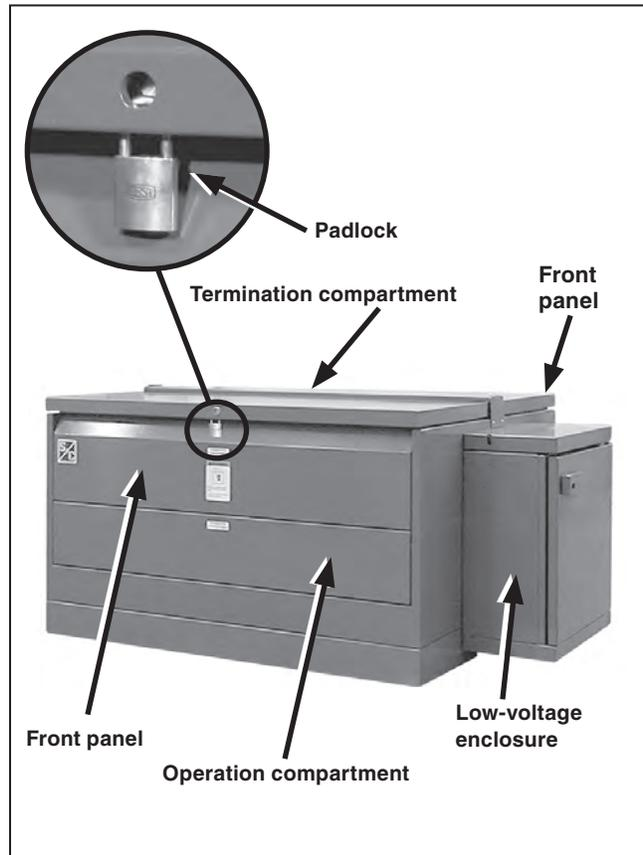

Figure 53. Lock the outer and low-voltage enclosures.
- STEP 4.** Padlock the switchgear and low-voltage compartment or enclosure before leaving the site—even momentarily. See Figure 53. Observe this procedure even in those cases where the gear is accessible only to qualified persons.